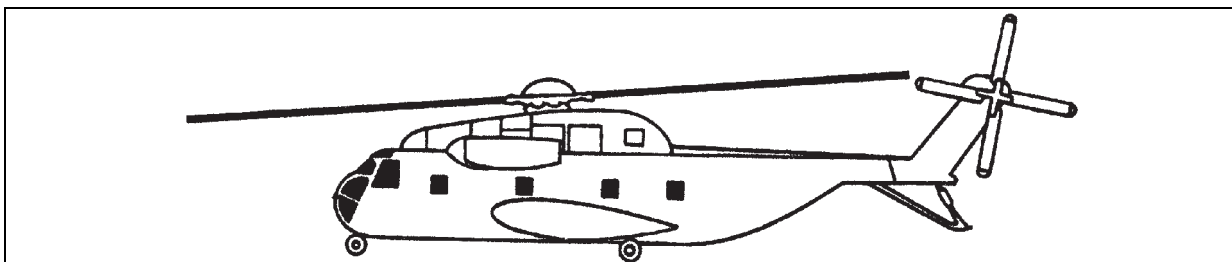

Figure 2-16. H-53 A/D Stallion
- **H-53.** The H-53 Stallion (figure 2-16) is a twin engine, single main rotor helicopter produced by Sikorsky Aircraft. Its primary mission is to either aerial deliver supplies and equipment or conduct airborne mine countermeasures (mine sweeping).